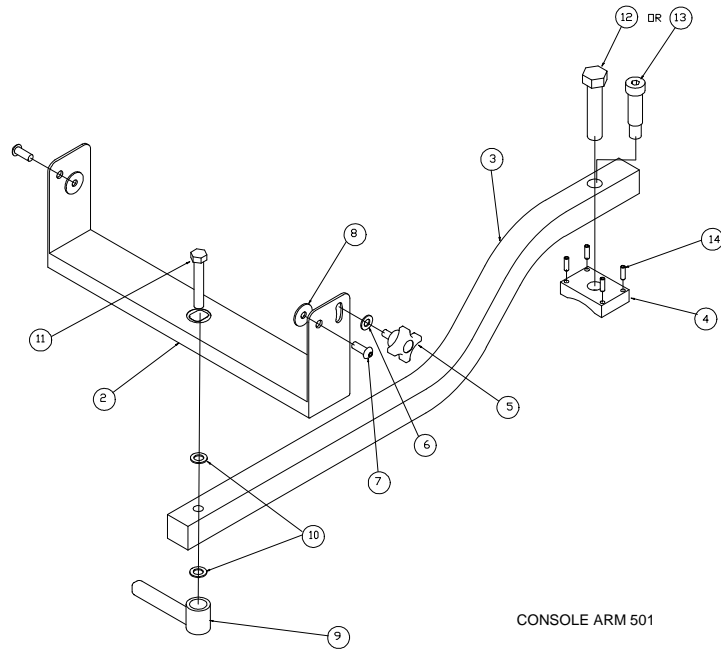

Figure 3-3, Console Arm and Mounting Bracket
1. Locate the Console Arm Mounting Kit, P/N 33000919. This box contains the console mounting arm, P/N 23000171, the console mounting yoke, P/N 23000175, one adjustable handle, P/N 86800109, and the hardware. Refer to **Figure 3-3, Console Arm and Mounting Bracket**.